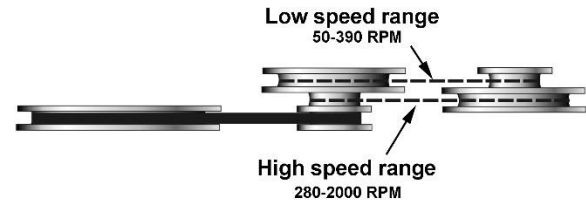
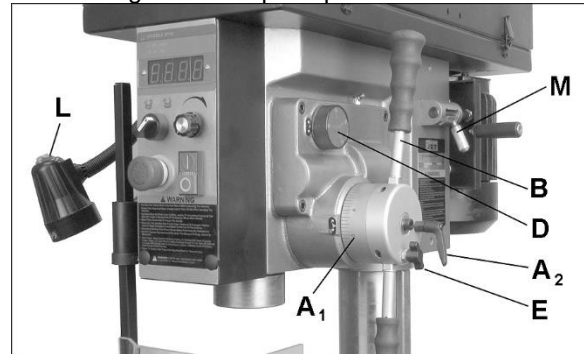

Figure 7-2 (step pulley model JDPE-20EVS-PDF)
Figure 8-1: head right side (JDPE-20EVSC-PDF)
2. Loosen lock handle (A₂, Figure 8-1) on depth scale.
4. Keep feed handle in lowered position and rotate depth scale (A₁, Figure 8-1) counterclockwise until it comes to a stop.
5. Tighten lock handle (A₂, Figure 8-1). This will keep quill in lowered position.
8. Loosen lock handle (A₂, Figure 8-1) to release quill.
2. Release latch (M, Figure 8-1) to de-tension belt. Work motor belt out of pulley grooves and into other set of grooves. Figure 7-2 shows speed range belt positions. Make sure belts are properly seated in the grooves of each pulley.
3. Re-tension belts by securing latch (M).
Refer to Figures 8-1 and 8-2.
1. Tighten powerfeed locking knob (E, Figure 8-1) to prevent powerfeed activation.
2. Use feed handles (B, Figure 8-1) to bring tool down into workpiece.
5. Use feed handle (B, Figure 8-1) to lower bit to desired depth based on reference mark.
See Figures 8-1 and 8-2.
1. Loosen lock handle (A₂, Figure 8-1).
2. Rotate feed handle (B) to lower spindle to point at which it is to be locked, and hold feed handle stationary in this position.
6. If drill press will not be used for an extended period, release latch (M, Figure 8-1) to reduce stress on belts.